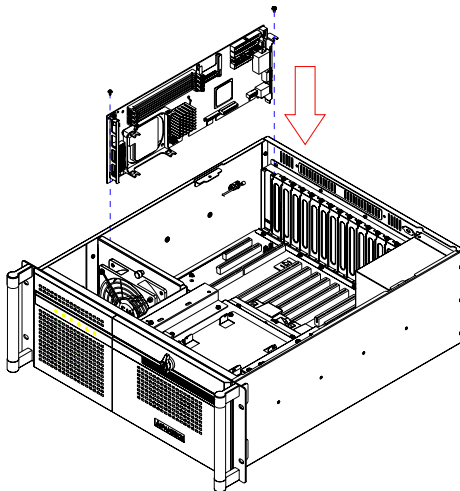

Figure 2.5: Installing a full-length card
2. Insert the CPU card (with CPU, CPU cooler, RAM, and necessary cables installed) or add-on card vertically into the proper slot. For full-length CPU card, please make sure that the card bracket has been inserted properly and the other edge of the card has been inserted into the plastic guiding fillister. Fasten the screws on the top of both brackets of the card. (see *Figure 2.5*).